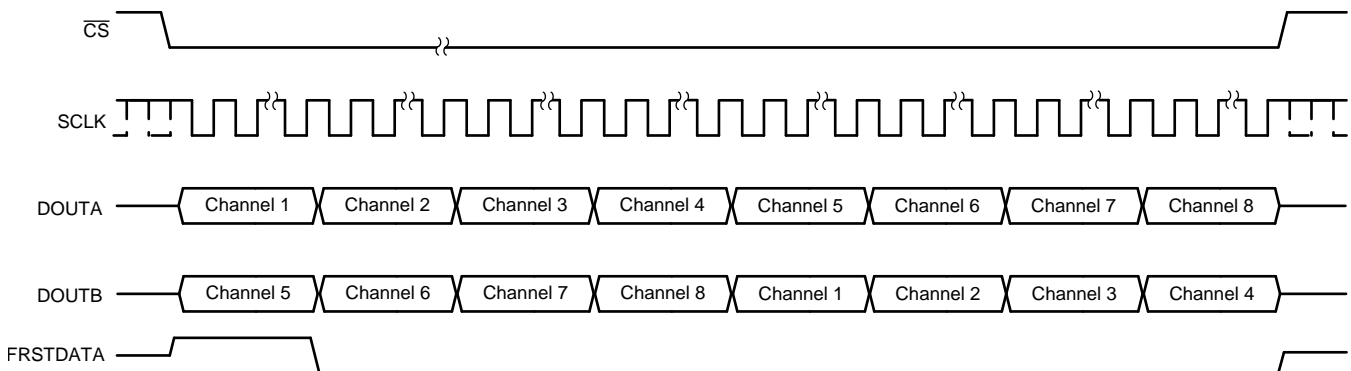

Figure 69. Data Read Back in the Serial Interface Using Either DOUTA or DOUTB Timing Diagram
$\overline{\text{CS}}$ pulse or each group of 18 SCLK cycles can be individually framed by the $\overline{\text{CS}}$ signal. The primary disadvantage of using just one data line for reading conversion data is that the throughput is reduced if a data read operation is performed after conversion. Figure 69 shows this operation.
- Alternatively, only DOUTB can be used for reading the conversion data from all channels. In this case, everything else remains the same and the output bit stream contains data for all channels in the following order: channels 5, 6, 7, 8, 1, 2, 3, and 4. Figure 69 shows this operation.